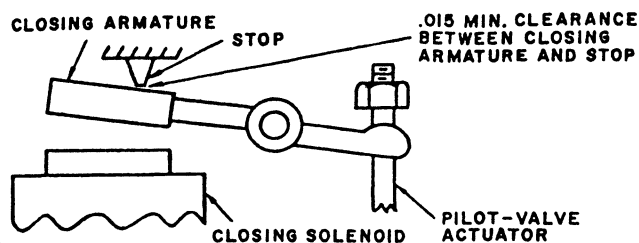

FIGURE 14
5. Closing armature clearance: See adjustment schematic, Figure 14.